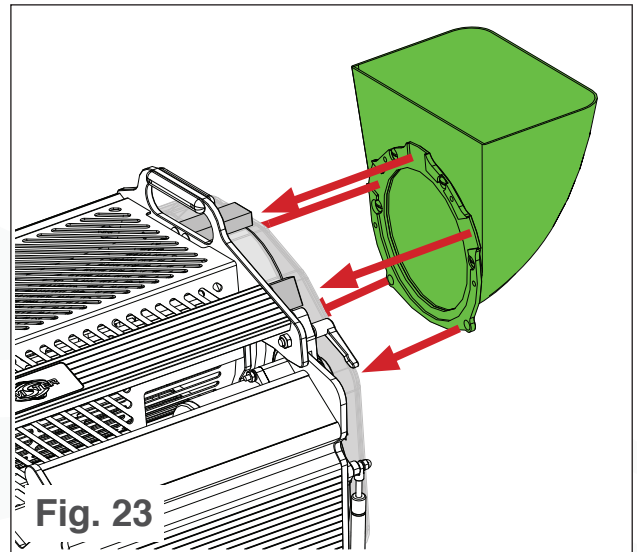

**Fig. 22**
4. Place the open end of the Feed Conveyor inside the T4 tumbler without the conveyor touching the tumbler\*\* (see Fig. 22).